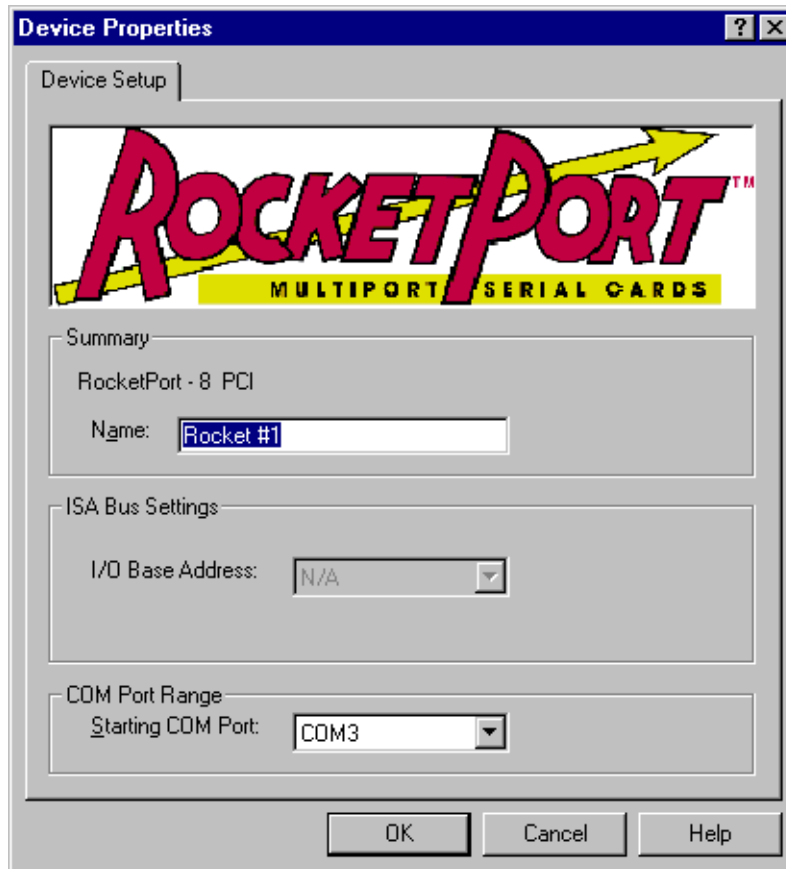

Figure 7. Select COM3 as the starting port.
12. Ensure that the Starting COM Port is set to COM3, then click **OK** to close the Device Properties dialog box (see Figure 7).